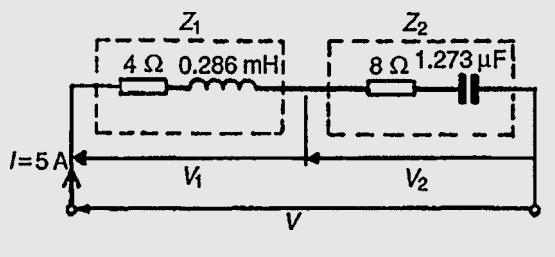

Figure 15.17
**Problem 17.** Determine the p.d.'s  $V_1$  and  $V_2$  for the circuit shown in Fig. 15.17 if the frequency of the supply is 5 kHz. Draw the phasor diagram and hence determine the supply voltage  $V$  and the circuit phase angle.